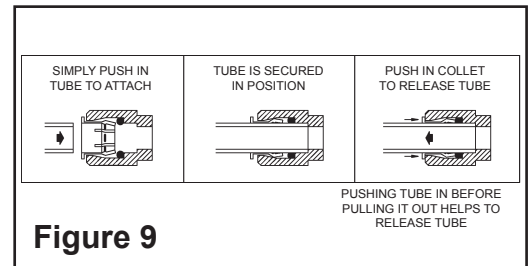

Figure 9
- See Figure 9 for the operation of Quick Connect Fittings.
4. **Actuation of Quick Connect Water Fittings:** Cooler is provided with lead-free connectors which utilize o-ring water seal. To remove tubing from the fitting, relieve water pressure, push in on the gray collar before pulling on the tubing. To insert tubing, push tube straight into fitting until it reaches a positive stop, approximately 3/4" (19mm). See Figure 9.